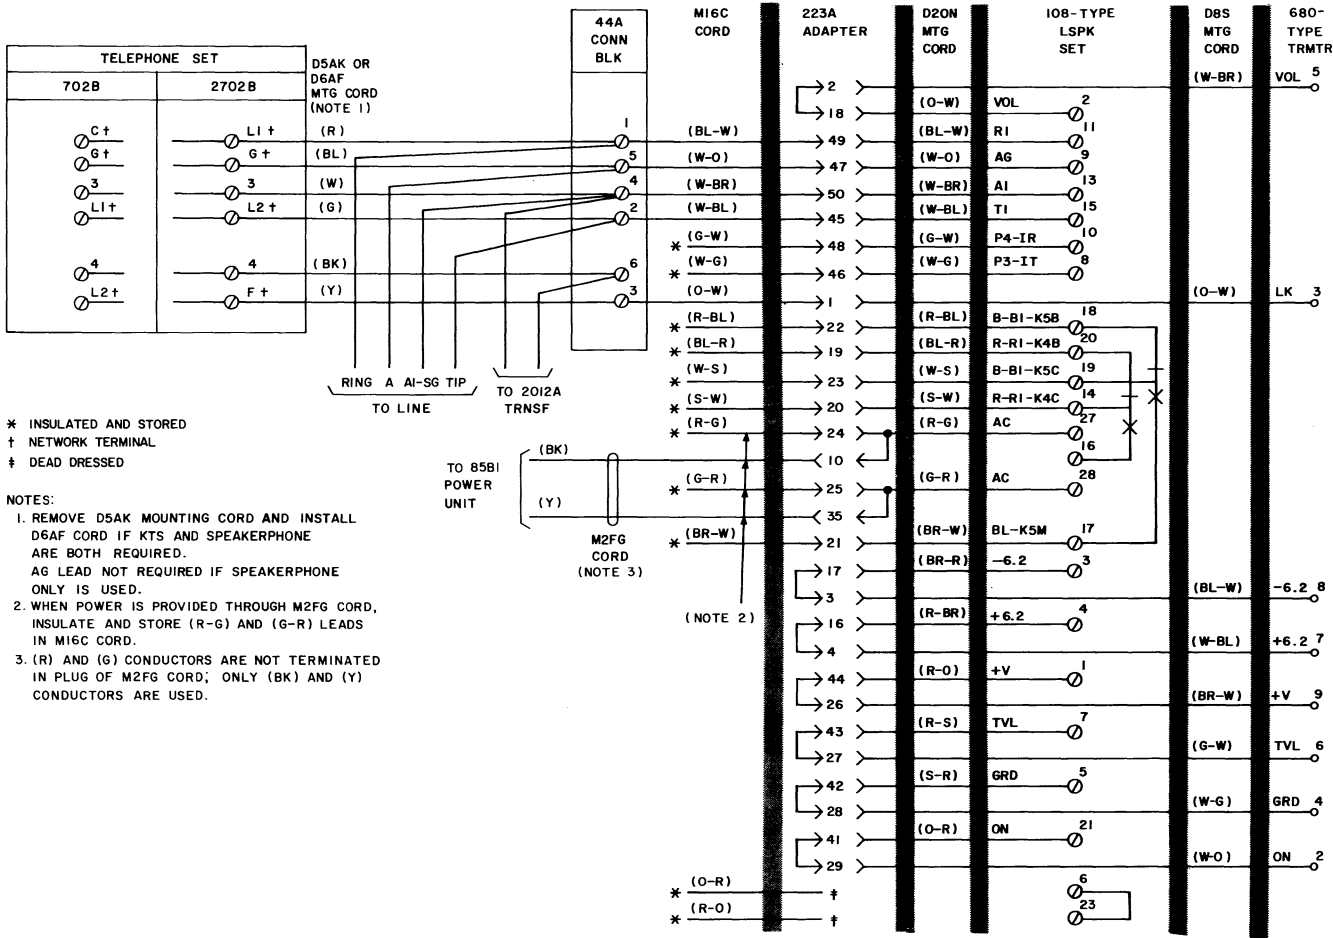

Fig. 4—4A Speakerphone Connections Using 223A Adapter
1.04 ♦The 711B (MD) telephone set is factory-wired for non-KTS use (Fig. 3). The 712B, 712BM, 2712B, or 2712BM telephone sets can be used with or without 1A1 or 1A2 KTS (Fig. 4, 5, or 7). Refer to appropriate modification table shown in Fig. 4 or 5 when connecting 712B or 2712B telephone set.♦